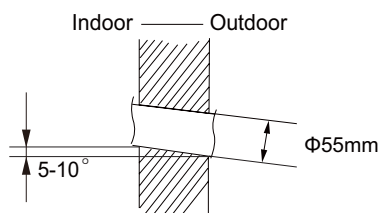

Fig.2
(2) Open a piping hole with the diameter of $\Phi 55\text{mm}$ on the selected outlet pipe position. In order to drain smoothly, slant the piping hole on the wall slightly downward to the outdoor side with the gradient of $5-10^\circ$.(As show in Fig.2)